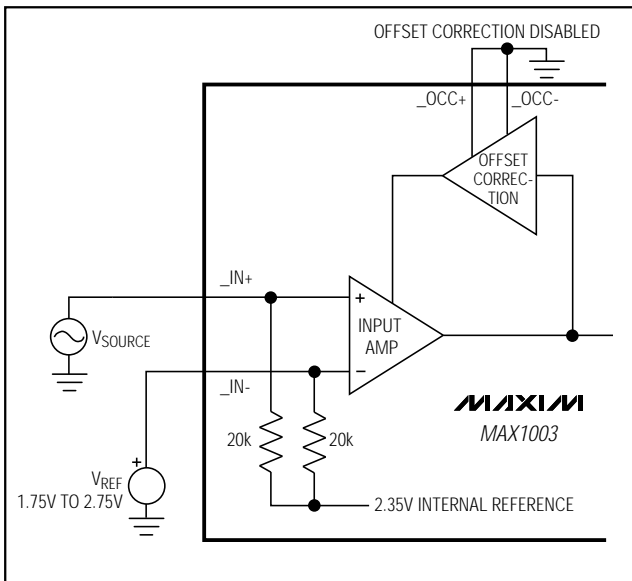

Figure 4. Single-Ended DC-Coupled Input
**Note 2:** A typical application will AC couple the analog input to the DC bias level present at the analog inputs (typically 2.35V). However, it is also possible to DC couple the analog input (using differential or single-ended drive) within this common-mode input range (Figures 4 and 5).
For applications where a DC component of the input signal is present, Figures 4 and 5 show single-ended and differential DC-coupled input circuits. The amplifiers' input common-mode voltage range extends from 1.75V to 2.75V. To prevent attenuation of the input signal's DC component in this mode, disable the offset-correction amplifier by grounding the  $\_OCC+$  and  $\_OCC-$  pins for the I and Q blocks (Figures 4 and 5).